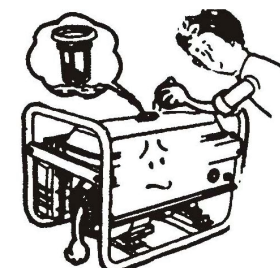

Figure 15
1.2.3 Check the fuel level, and add fuel if necessary. Be sure not to add too full. Fuel capacity for the machine: 15L (2.0GF, 2.5GF), and 25L (3.0GF[E] up to 6.5GF[E]) (Figure 15)